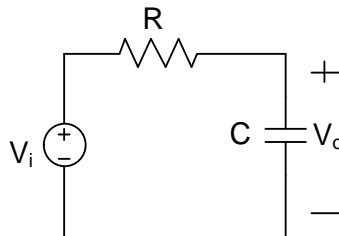

Figure 1: RC Low-Pass filter circuit
2. Is relation (2) verified with relation (1) in figure 1 circuit?
4. Why do we have primary current in the circuit of figure 1 although there is no load at the secondary side of the transformer?
5. What is the reason behind  $V_s$  of circuit in figure 2 being lower than  $V_s$  of circuit in figure 1?
For the RC circuit example shown in Fig. 1, the transfer function  $H(s)=V_o(s)/V_i(s)$  is easily obtained by VDR. The evaluation of its magnitude and phase (for  $s=j\omega$ ) gives: